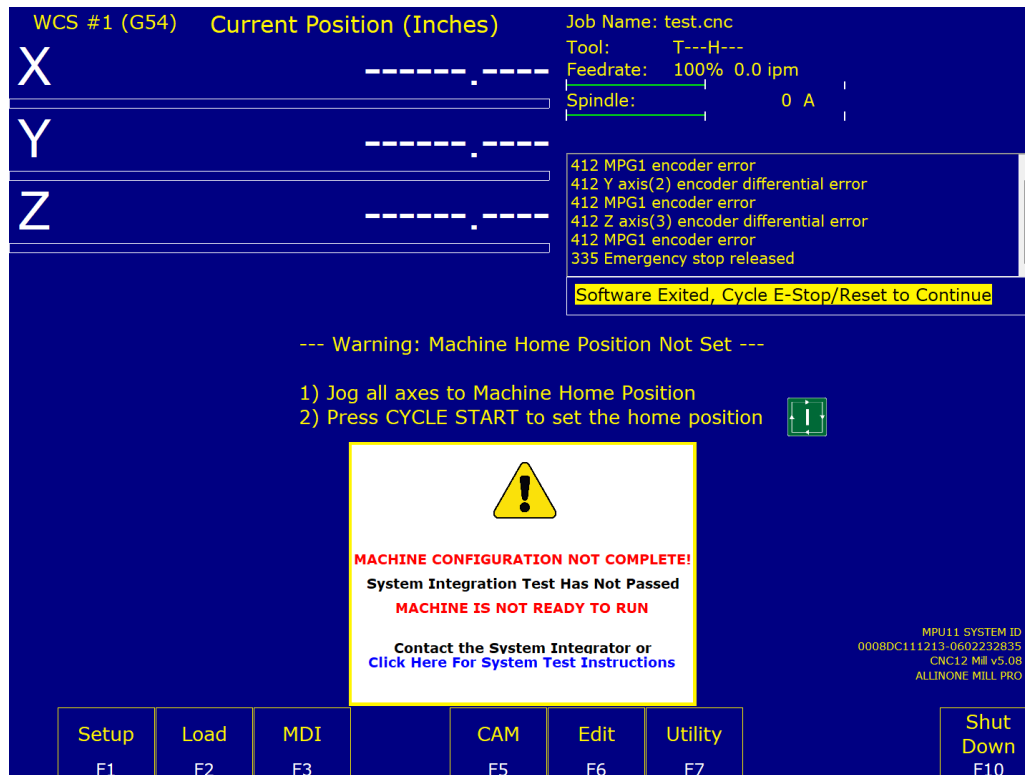

Figure 4.1.12
9. **Clear Software Ready Faults** Anytime the CNC12 software has been exited and restarted without the hardware also being powered off and restarted, the CNC12 software will report a “**Software Exited**” fault as demonstrated below in Figure 4.1.12. A “Software Exited” fault like spindle, lube, encoder and position fault is a “**stop fault**”. A “stop fault” removes power from all servo motors, prevents program or MDI operation, turns off all drive and spindle enables, and requires that the E-Stop input MUST be cycled in order to clear the fault. During the bench test we will trick the software into thinking we cycled the E-Stop (not connected yet), by toggling the input 11.